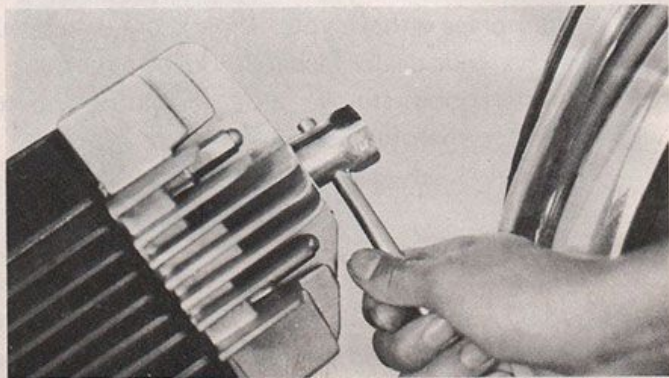

Fig. 21
- a. Pull off the sparkplug wire and unscrew the plug with the 21 mm socket wrench as illustrated. (Fig. 21)